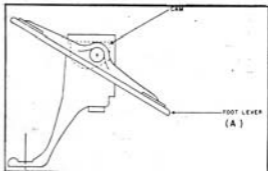

Fig. 5
5. Assemble foot lever (A) Fig. 5, to the end of the shaft using the pin supplied. Foot lever is assembled to each shaft in the same manner, as shown in Fig. 5.